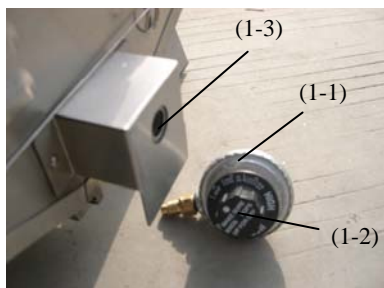

Fig. 1
1. Locate the gas regulator (1-1). Grasp the regulator (1-1) with the knob (1-2) facing directly up. Line up the collar on the regulator (1-1) with the open end of the burner tube (1-3) as shown in fig.1